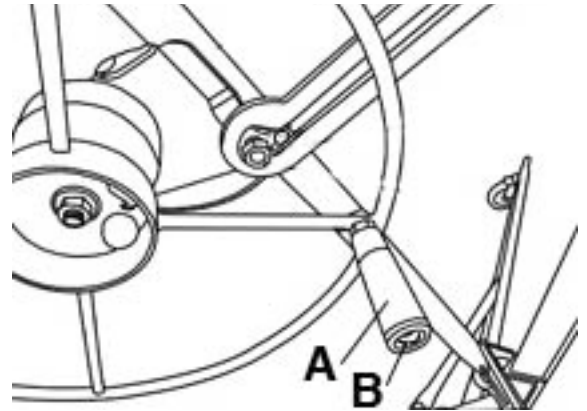

FIGURE 5
- 1) Assemble the winch handle (A) Fig.5 to the winch wheel by tightening the handle bolt (B) with a screwdriver.